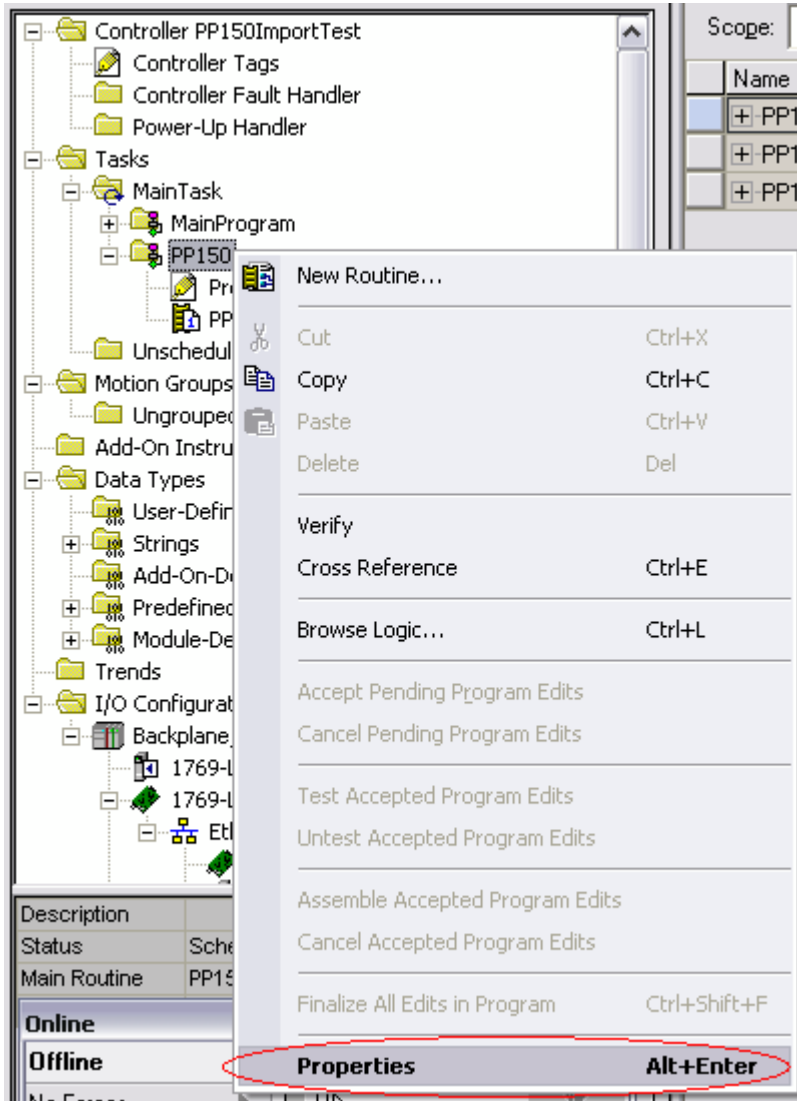

FIGURE 10.12
N. RIGHT CLICK ON THE NEW PROGRAM (PP150) AND SELECT "PROPERTIES" (FIGURE 10.12)